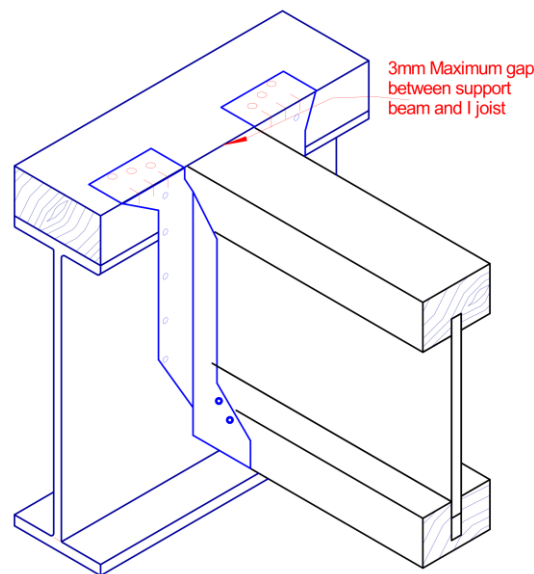

Figure 2 Details of Top Mount Joist connectors
2. G300 Z275, 1.2mm thickness, top mount I-Joist Hangers, (IJTM200/45, 240/45; 245/45, 200/50, 240/50; 200/65, 240/65, 245/65; 302/65, 240/70, 300/70; 200/90, 240/90, 245/90, 300/90), see Figure 2 for a typical hanger. The evaluation was carried out via testing and computations based on 3.75x40mm Wilmaplex galvanized flat head nails and a support beam of 290x45mm MGP10 radiata pine and Tilling’s smart frame I joist. The design capacities are given in Table 2.